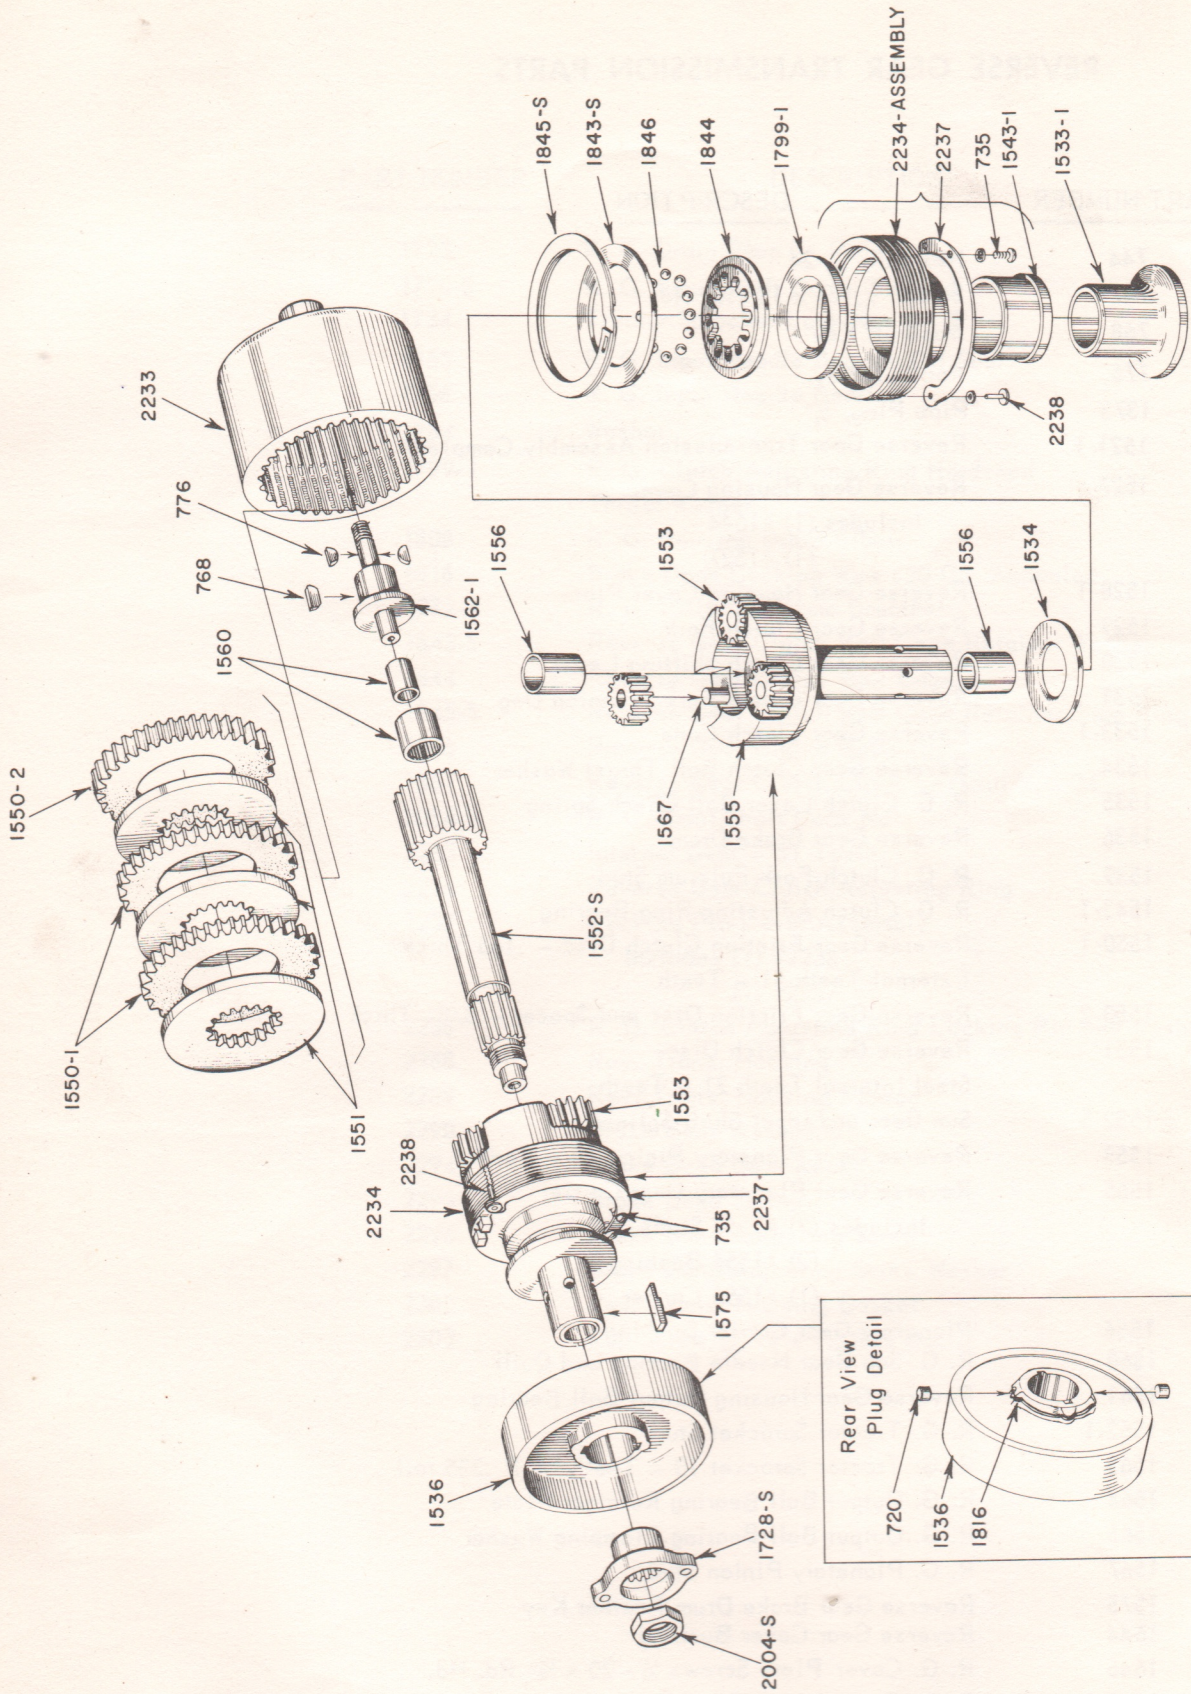

FIGURE 5
21. Loosen the Input Shaft Lock Nut #2004-S on the input end of the Sun Gear Shaft #1552-S as shown in Fig. 5. To do this, hold the Transmission in a vise by the #1563 Sprocket on the Output end with 2 wood blocks.
29. All of the internal mechanisms are now separated as a sub-assembly. To disassemble this unit a clip 3/8" wide can now be placed on the Planetary Gear Carrier #1555 to limit the movement of the Clutch Cone #1533-1 which will prevent the Clutch Balls from dropping out of their Cage when the Internal Gear #2233 is screwed off of the Adjusting Ring #2234, (Fig. 5).
31. The Sun Gear Shaft Assembly #1552-S can now be pulled out. Pick out the 3 Planetary Pinions #1553 (Fig. 5).
32. To examine the Clutch Adjusting Ring #2234, Thrust Washers #1534 and #1799-1 and the Ball Cage #1844, remove the 3/8" wide clip from the Carrier #1555 mentioned in paragraph 29 which allows the Clutch Cone #1533-1, Adjusting Ring #2234, Carrier #1555, Ball Cage #1844, Washers #1534 and #1799-1 and Balls #1846 to separate for inspection. If any of these need replacing, cut the Locking Wire #1816 on the Brake Drum Hub #1536 and remove the 2 Locking Plugs #720 (Fig. 5). There are holes in the #1556 Planetary Carrier Bushings for knockouts.
41. With the Clutch Cone #1533-1 pushed up against the Clutch Adjusting Ring Bronze Bushing #1543-1, insert the 12 Clutch Balls #1846 in the openings in the Ball Cage #1844. This should be done while holding the whole assembly in a vertical position which keeps the balls from dropping out. Then slide the whole assembly along the Planetary Gear Carrier #1555 until the Clutch Balls hit the Thrust Washer #1534 on the rear of the Carrier as shown in Fig. 5.
45. Now the  $3/8$ " wide clip that limits the motion of the Clutch Cone can be removed and the clutch should be left in the engaged position (Fig. 5).
53. Start the Input Shaft Driver #1728-S on the Input end of the Input Shaft #1552-S and drive onto the shaft until the hub of the Driver is against the slight shoulder on the Input Shaft #1552-S (Fig. 5).
54. Tighten Lock Nut #2004-S against the Driver #1728-S (Fig. 5).